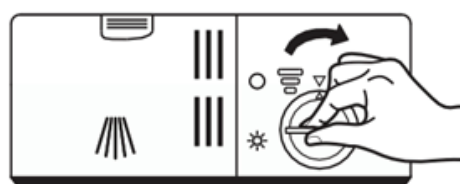

Figure 11: Re-fitting the cap onto the Rinse-aid dispenser.
Step 3 Re-insert the Rinse-aid cap and screw in a clockwise direction to lock it in place. Refer to Figure 11.